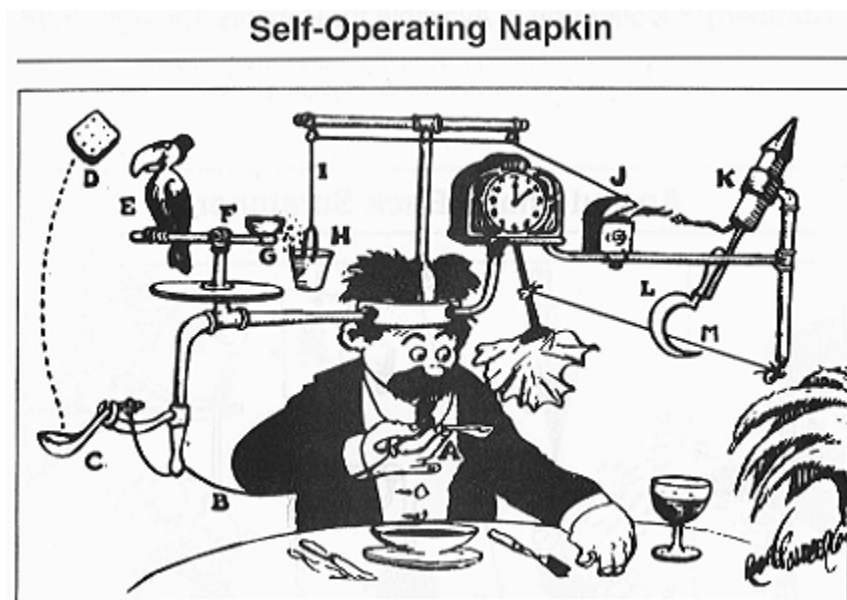

Fig. 1: Rube Goldberg Machine- Professor Butts & the Self-Operating Napkin [3]
Project Description: According to the Merriam-Webster Online Dictionary (n.d.), the Rube Goldberg concept is defined as "accomplishing by complex means what seemingly could be done simply." [1] This is how Reuben Lucius Goldberg, a Pulitzer Prize-winning artist, portrayed machines and gadgets as excessive for well over 50 years. In addition, he was sometimes skeptical about the technology upon which these devices were based. His cartoons combined simple machines and common household items to create complex and wacky contraptions that accomplished trivial tasks. While most machines work to make difficult tasks simple, his designs made simple tasks complex. For instance, he designed a simplified pencil sharpener, a safety device for walking on icy pavements; he dealt with problems like putting a stamp on an envelope, screwing in a light bulb, or making a cup of coffee in 20 or more steps. [2] An example of one of his designs is illustrated in Fig. 1.
1. Every Rube Goldberg machine has numerous steps. For instance, the machine depicted in Figure 1 has 13 steps (A to M). For this project, a minimum of 10 steps are required.